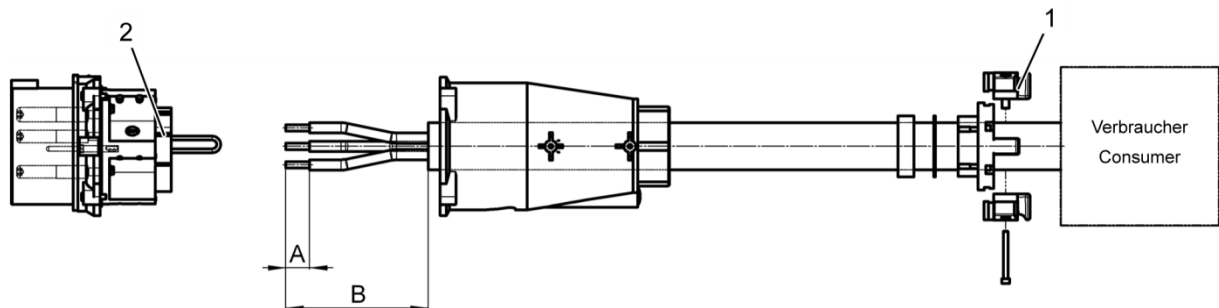
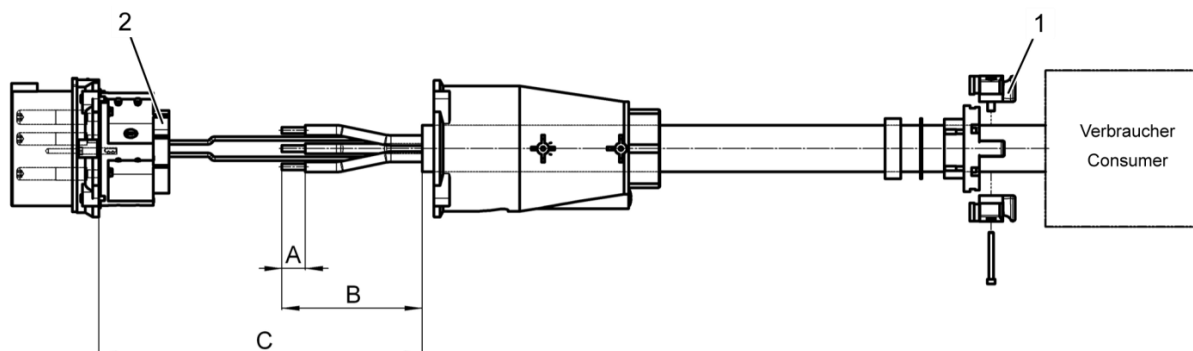
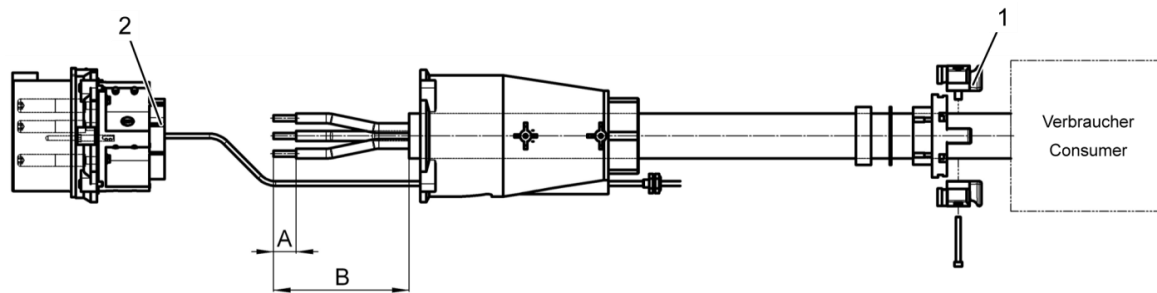

Fig. 55: Schematic for cables without pilot contacts
Fig. 56: Schematic for cables with integrated pilot contacts
Fig. 57: Schematic for cables with separate pilot contacts
- Proceed as specified in Fig. 55 if no pilot contacts are present.
- Proceed as specified in Fig. 56 if pilot contacts have been integrated.
- Proceed as specified in Fig. 57 if the pilot contacts are separate.
1. Pull the cable gland (Fig. 55 /1, Fig. 56 /1 bzw. Fig. 57 /1) over the cable
Strip off the exterior insulation along length B (Fig. 55).
2. Strip the insulation off each individual line along length A (Fig. 55).
Strip off the exterior insulation along length B (Fig. 56).
- Strip the insulation off each individual line along length A (Fig. 56) Length C represents the length of the integrated pilot contact.
Strip off the exterior insulation along length B (Fig. 57).
2. Strip the insulation off each individual line along length A (Fig. 57).
3. Strip the insulation off the pilot contacts along length A (Fig. 57) abisolieren.
1. Screw the female contact (Fig. 55 /2, Fig. 56 /2 bzw. Fig. 57 /2) to the cable.